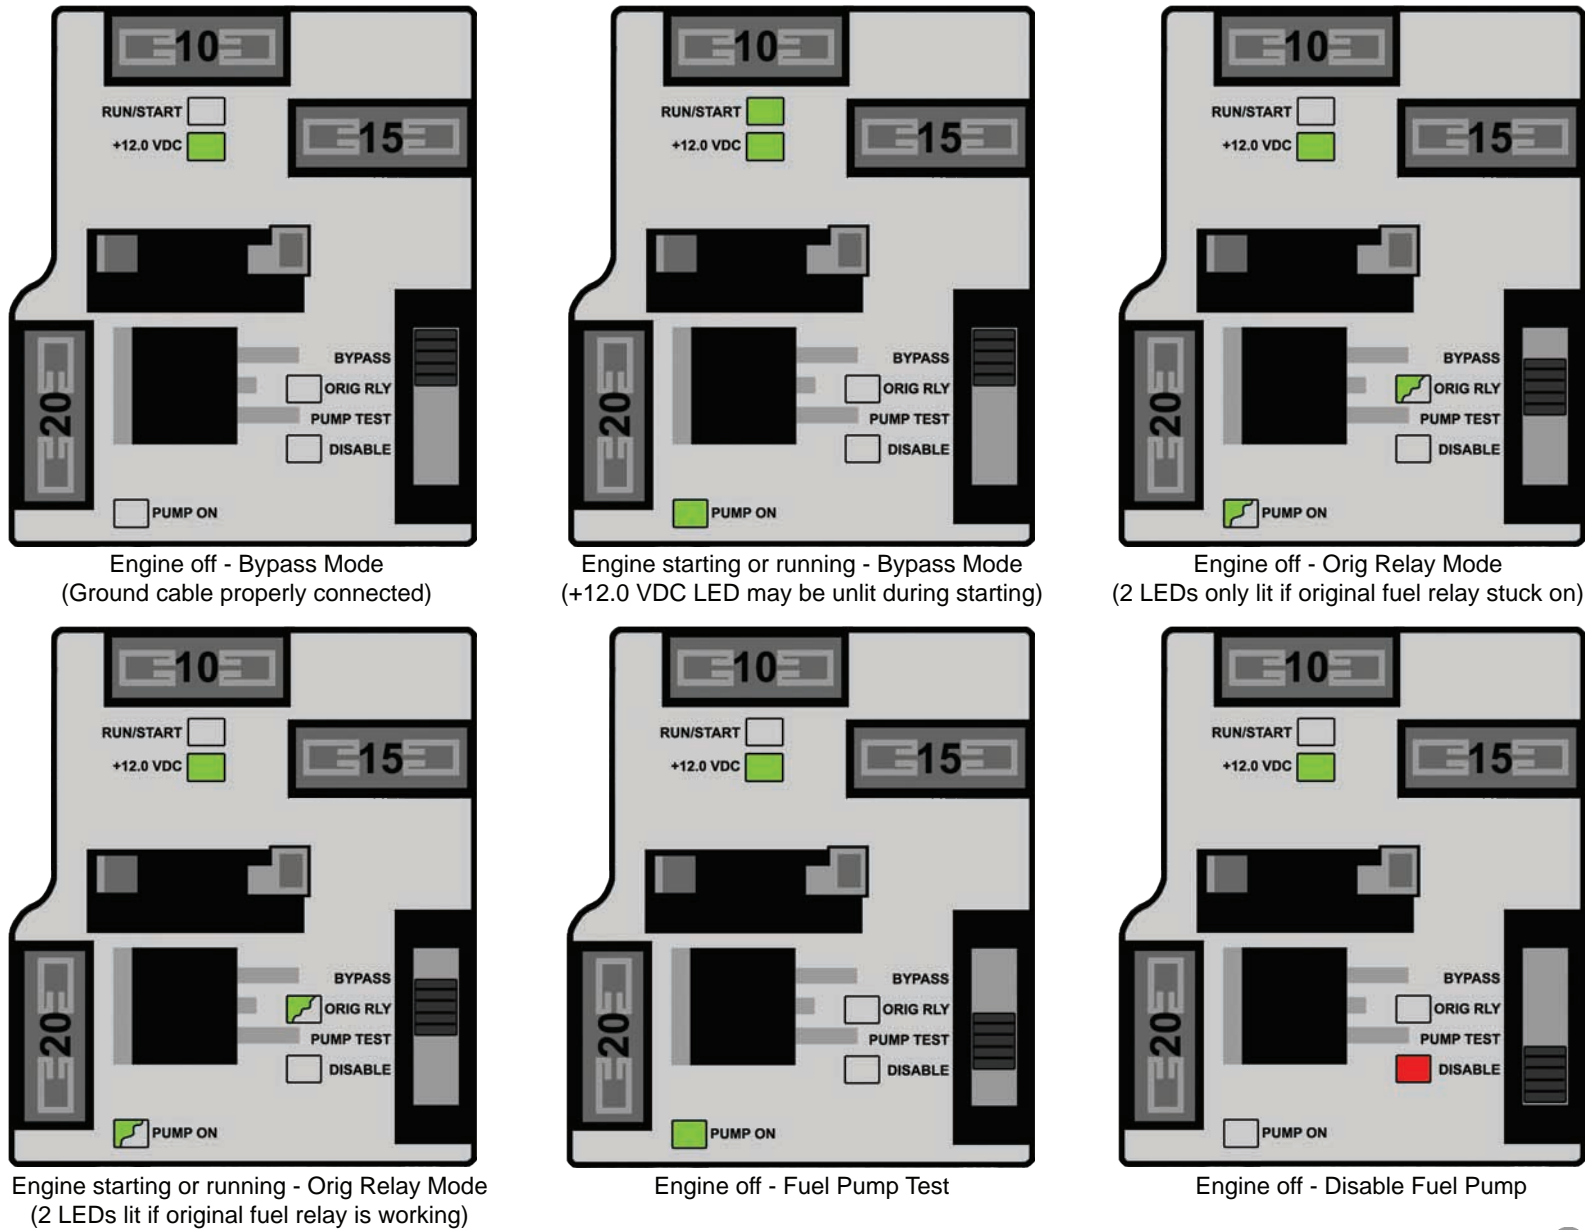

Figure 7 - Normal operation of the TIPM Plug-In Relay System
- Verify that you see the three green LEDs shown in Figure 7 (engine starting or running - Bypass Mode) during the engine cranking process and while driving. The most important thing to remember is that illumination of the green PUMP ON LED is the ultimate goal in delivering +12 VDC power to your fuel pump. If this LED is illuminated, the TIPM Plug-In Relay System is working properly and the problem is likely elsewhere within your vehicle.